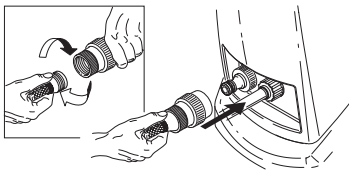

Figure 8
7. Assemble quick-connect adapter to water inlet. See Figure 8.
8. Connect the quick-connect to the water supply hose. See Figure 8.
9. Connect quick-connect to quick connect adapter at the water inlet. See Figure 8.